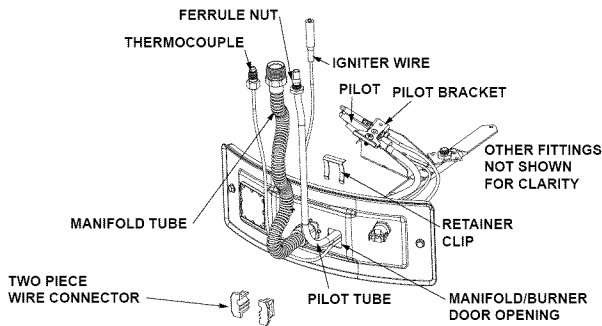

FIGURE 34.
2. Lift the retainer clip straight up from the back of the two piece wire connector (using a flat-blade screwdriver), then remove the two piece wire connector from the manifold door (Figure 34.)
- Position the new thermocouple through the bottom opening of the two piece wire connector (Figure 34). Be sure igniter wire is positioned through the small opening of the two piece wire connector.
- Lift the retainer clip straight up from the back of the two piece wire connector (using a flat-blade screwdriver), then remove the two piece wire connector from the manifold door (Figure 34.)
- Route the new pilot tube, thermocouple, and igniter wire through the manifold/burner opening. (Figure 34)
- Carefully bend the new pilot tube and thermocouple to match the bend of the manifold tube. **NOTE:** When bending, **DO NOT** crimp or crease the pilot tube or thermocouple. (Figure 34)